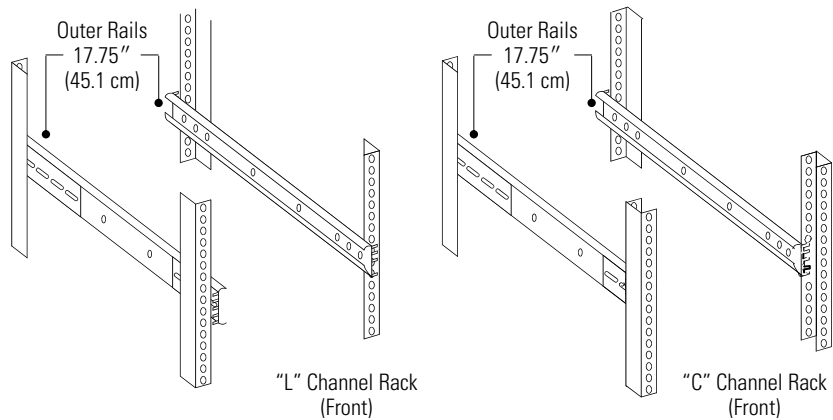

Figure 29. Attaching the Outer Rails to the Rack
5. To ensure the UPS front panel fits flush with the front of the rack, use a rack with front supports that are “L” channels and mount the outer rail on the front of the “L” channel as shown in Figure 29.
NOTE Figure 29 is only an example for mounting position. Different rack manufacturers may vary in design and/or dimensions. Some racks have a “C” channel in the front; the mounting brackets should be attached to the rear of the “C.”
7. Attach the outer rails to the rack using appropriately-sized bolts for your rack (not supplied). See Figure 29.